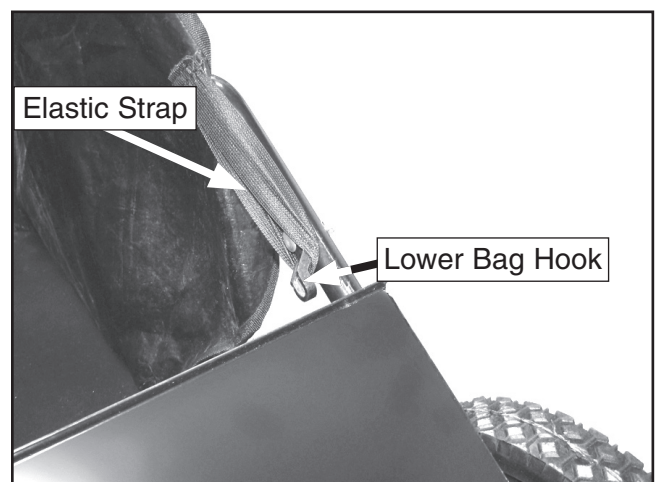

Figure 7. Elastic strap and lower bag hook.
5. Hook the elastic strap to the lower bag hook, as shown in **Figure 7**.